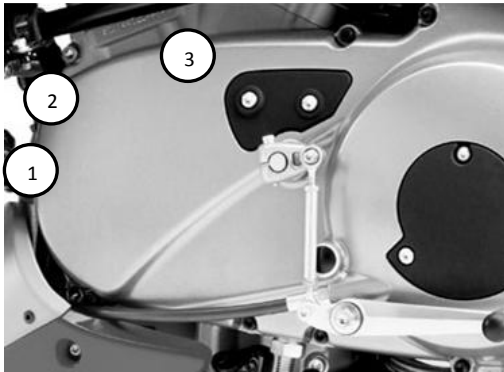
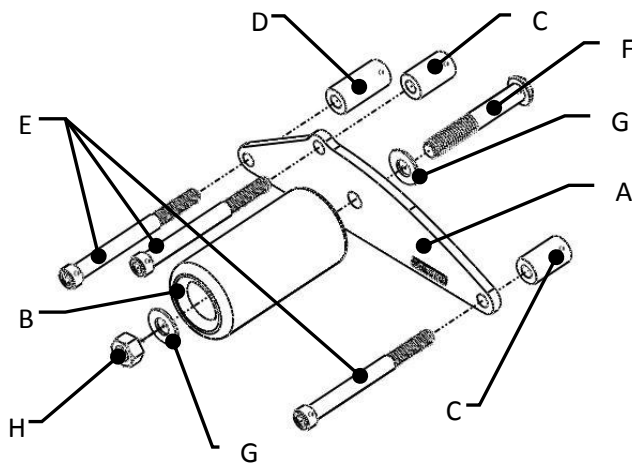

Figure 1: Left Side (Primary)
Figure 3: Left Side Slider Assembly
1. Remove bolts from locations 1, 2, & 3 on the primary cover per figure 1.
2. Assemble bolt F through the left plate (item A), slider (item B) and flat washer (item G) per figure 3.
4. Assemble three bolts (item E) through the left plate (item A), & through spacers (items C & D) per figure 3, then hand tighten through primary cover at locations 1, 2 & 3 on figure 1. **⚠WARNING! DO NOT USE THREAD- LOCKER ON THESE BOLTS!**